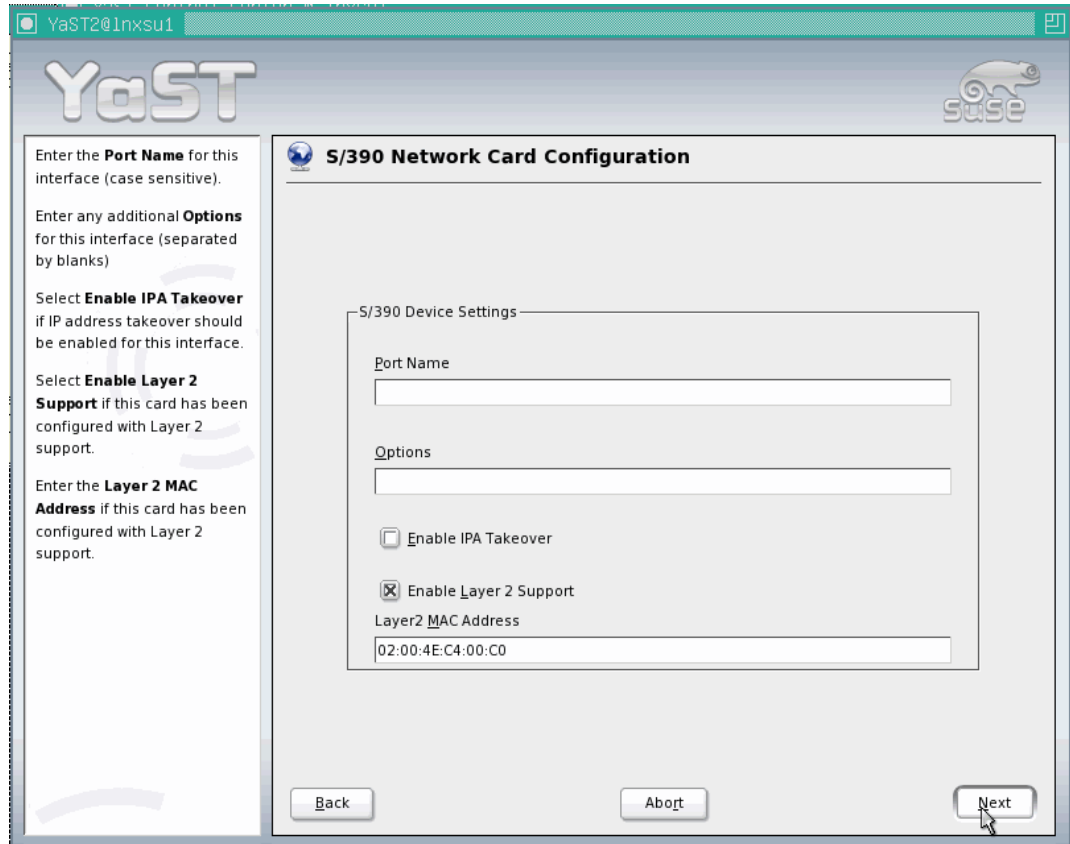

Figure 6-6 Enabling Layer 2 support for QDIO device configuration panel
2. We selected the first device address to be used for our QDIO Layer 2 network interface and clicked **Configure**. We enabled the Layer 2 support on the resulting panel, also specifying the virtual MAC address that we need for this network interface, as shown in Figure 6-6 on page 127.